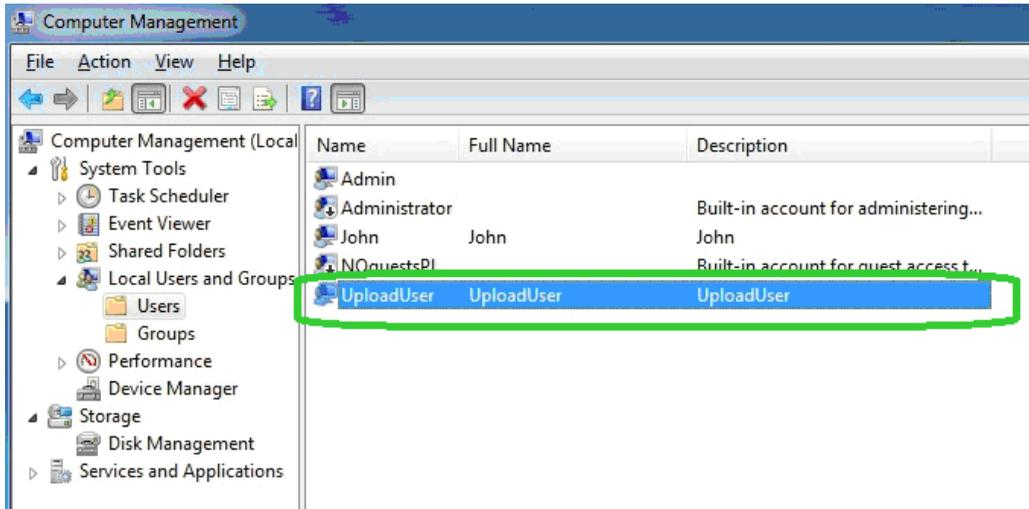

FIGURE 2-23 Computer Management - Upload User
Step 10 Click the name of the user account, or the default name **UploadUser**, if applicable, as shown in FIGURE 2-23.